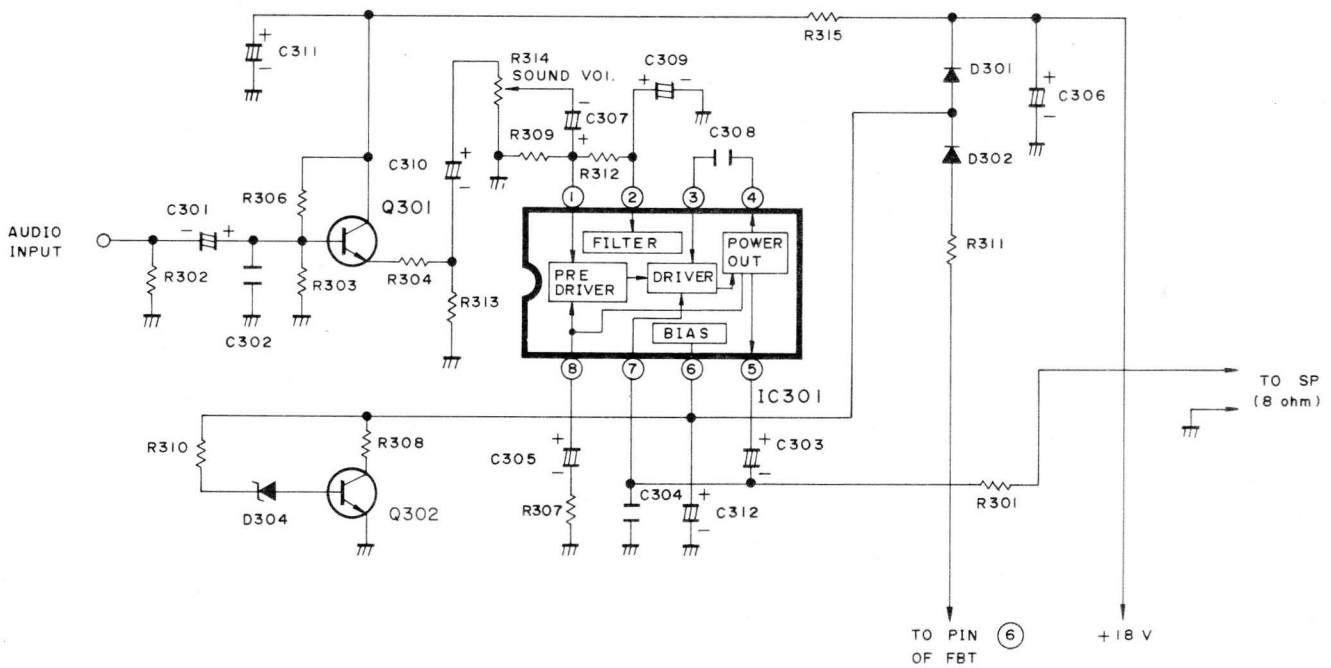

Figure 10. Audio Output Circuit
8. Audio Output Circuit (Fig. 10)